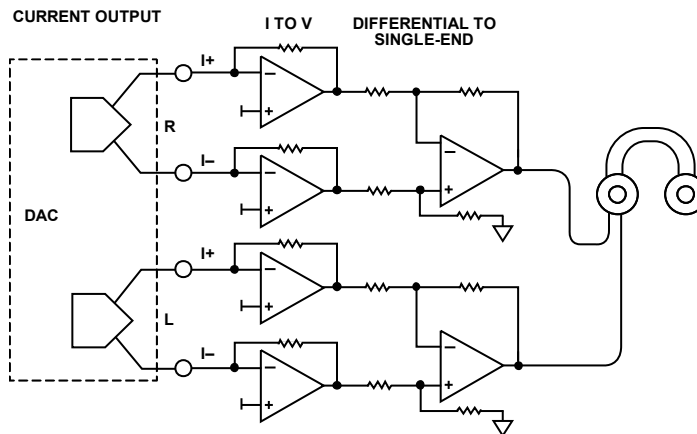
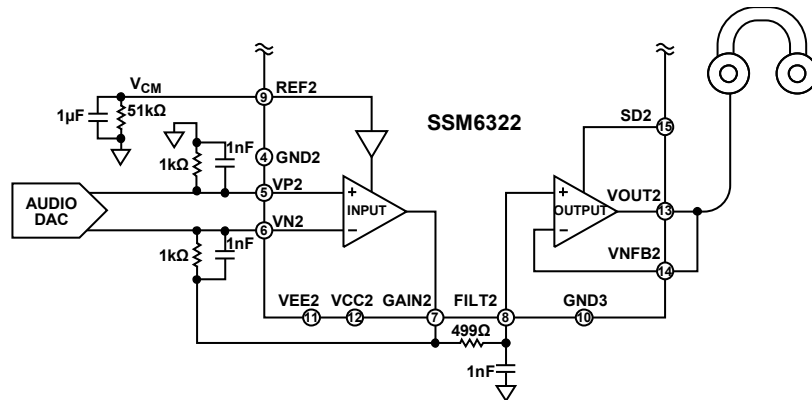

Figure 41. Current Output DAC Configuration
Figure 46. SSM6322 Circuit with Current Output DAC
For a current output configuration, implement an current to voltage (I to V) circuit to convert the differential current signal from the R channel and the L channel to the differential voltage signal, followed by a difference amplifier circuit (see Figure 41).
Current output audio DACs are typically used to achieve the best THD + N performance (see Figure 41). Six amplifiers and many passive components are required to perform current mode signal conditioning, which consumes more PCB area and more power. Area consumption and power consumption are important considerations in mobile phone applications.
In a typical current output DAC signal chain (see Figure 41), four amplifiers are configured as an I to V circuit. The non-inverting inputs are connected to a dc voltage that is the output common-mode level of the DAC, making the voltage at the I+/I- terminals a dc signal. This signal makes the voltage drop at two internal source resistors of the DAC ( $R_{S1}$  and  $R_{S2}$ ) the same, which makes the DAC achieve the best distortion performance.
For an audio DAC with a differential current output, two gain resistors convert the current to voltage (see Figure 46). The resistor value is determined by the DAC output full-scale current and the input stage output range (the output range is  $\pm 3$  V at a  $\pm 5$  V supply). Assuming that the DAC single-ended output current is  $\pm 1.5$  mA, and that the differential current is  $\pm 3$  mA, the output of the input stage is  $\pm 3$  V when using two 1 k $\Omega$  gain resistors. The feedback capacitors, in parallel with the gain resistors, form a single-pole, low-pass filter. The SSM6322 can handle up to a 1 k $\Omega$  and 2.2 nF resistor capacitor combination.
A 499  $\Omega$  resistor and 1 nF capacitor can be added between the input stage and output stage for a second single-pole, low-pass filter, as shown in Figure 46.
- The SSM6322 circuit is different with a typical current output DAC signal chain (see Figure 41); there is only one op amp that performs the differential I to V conversion. The power across the noninverting grounded resistor is fixed, but the power across the feedback resistor varies with the output signal. This variability creates a mismatch between the two resistors, as well as distortion if the heat cannot be well dissipated. Low drift (25 ppm/°C) metal film or thin film resistors are suggested to avoid this situation (see Figure 46).